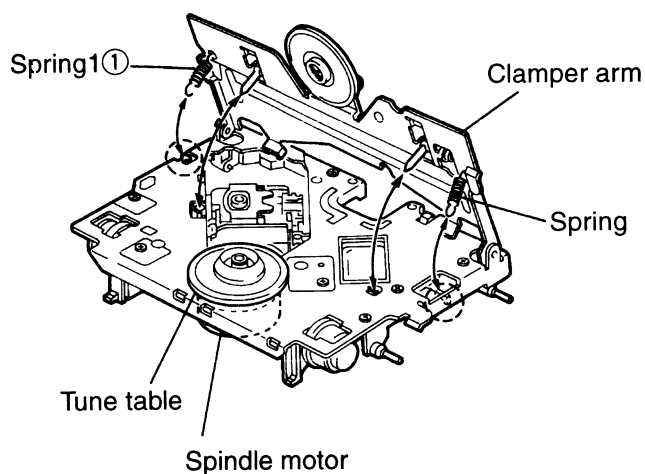

Fig. 22
1. After turning back the CD mechanism to initial position, remove the two sparrings (k) and i on both the right and left sides of the clamper arm (See Fig. 22 and Fig. 23).